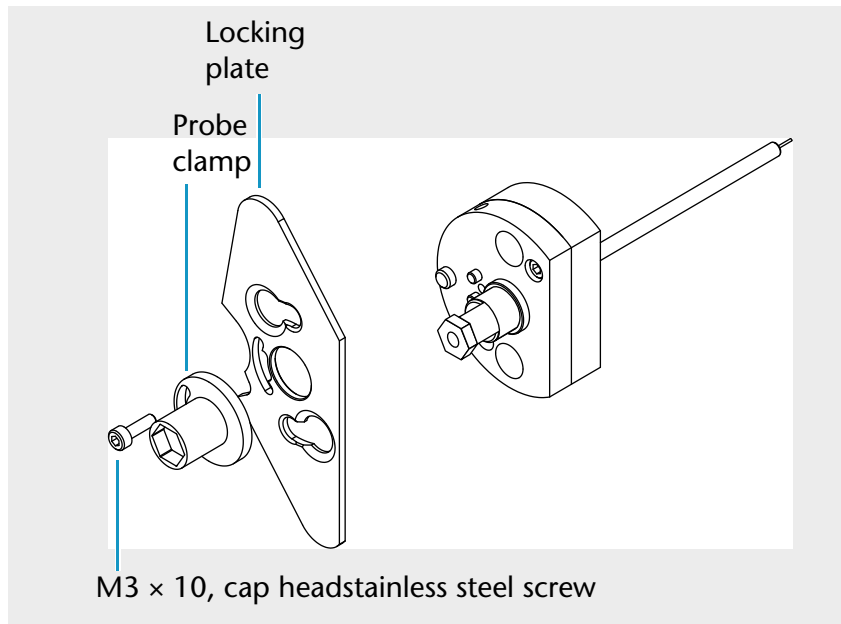

Fig. 35 Removing the probe clamp and locking plate
2. Using the 2.5 mm Allen key, unscrew the M3 × 10 cap head stainless steel screw from the probe clamp, and then remove the probe clamp and the locking plate, as shown in Figure 35.